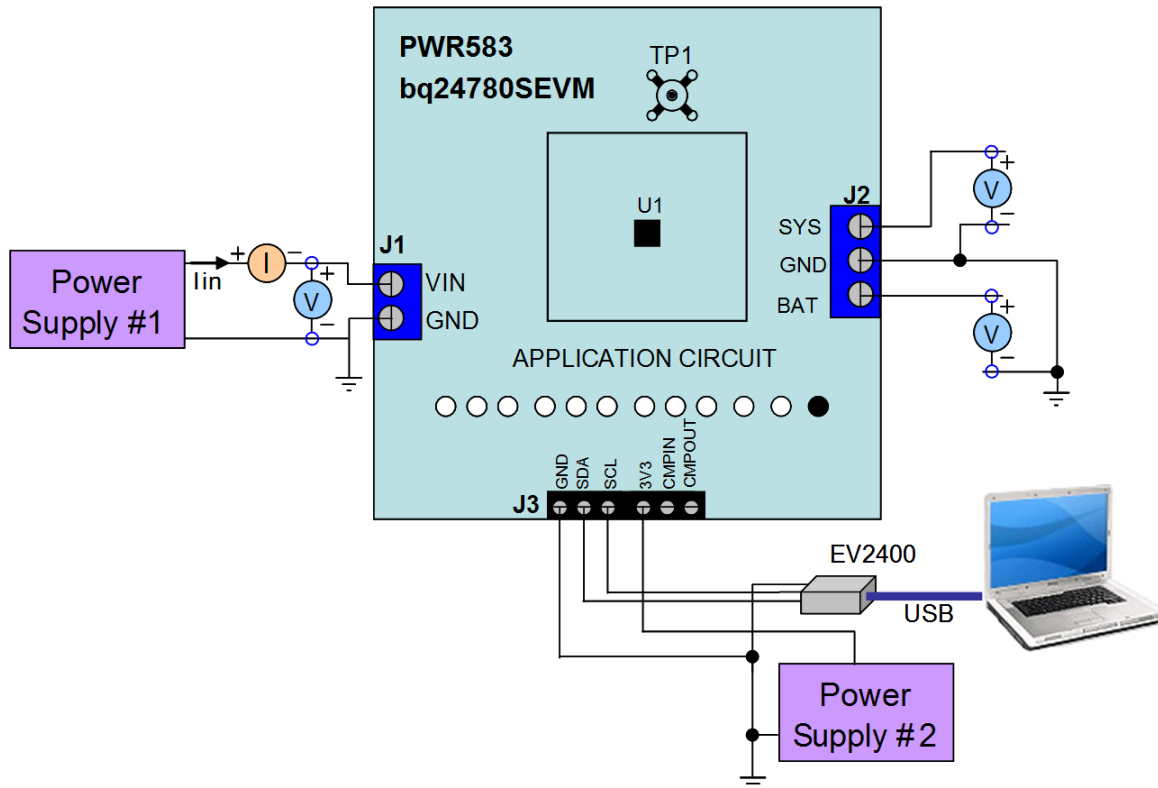

Figure 2. Original Test Setup for PWR583 (bq24780S EVM)
- Connect J3 (SDA, SCL) and J3 (GND) to the EV2400 kit SMB port. Refer to Table 4 for EVM connections. Connect the USB port of the EV2400 kit to the USB port of the computer. The connections are shown in Figure 2.
After completing the previous steps, the test setup for PWR583 appears as shown in Figure 2.